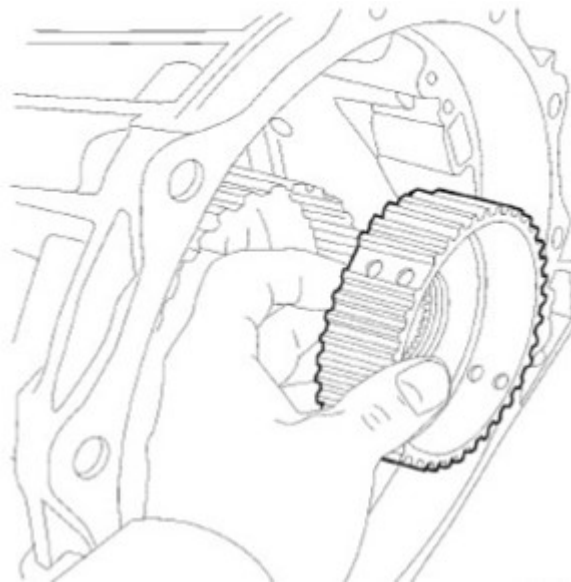

Fig. 10
13. Remove and inspect the K1 clutch hub (Fig. 10) .
20. Install the K1 clutch hub and thrust bearing into the transmission case (Fig. 10) .